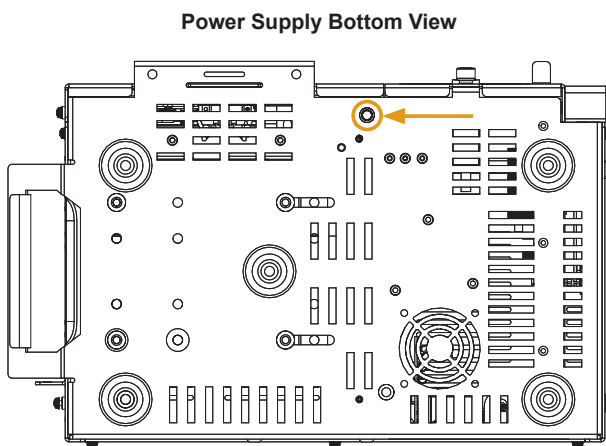

Figure 2-2, Security Screw Mounting Location
1. Locate the security screw mounting location on the XM3-HP Power Supply (see Fig. 2-2).